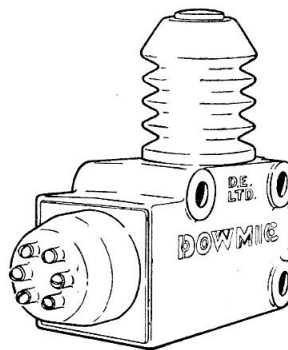

Fig. 1. Microswitch, Type 1831Y with weatherproof grommet and shroud
4. The microswitch, of which a general view showing a six entry grommet fitted, is given in fig. 1, is a double-pole, change-over type, with a quick make and break action. The switch is fitted with heavy duty contacts, having a minimum separation of 0.025 in., and is designed for use in a.c., or d.c. circuits. The Mk. 101 to 200 range have only been tested on 28.5 volt d.c. supply, see para. 3.